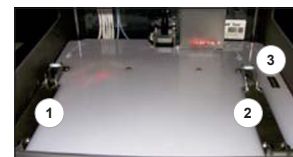

Fig. 31
1. Press REPLACE on the touchscreen and select the bay that the cartridge will be installed. Print Jet 1 represents bay 1, Print Jet 2 represents bay 2 and Print Jet 3 represents bay 3. Press “Next” on the touchscreen, a message “Heating Print Jet Please Wait...” will appear on the control panel. (Fig. 31)